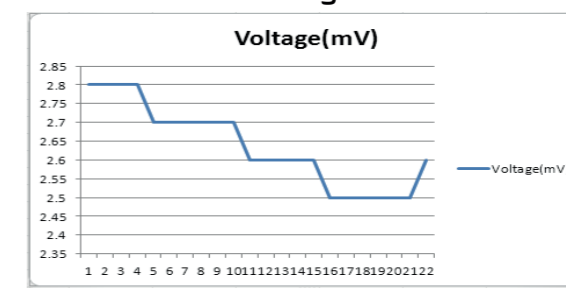

Figure 6-6
4. The chart will be displayed (see Figure 6-6). If you want to keep the chart, save the file to XLS format.